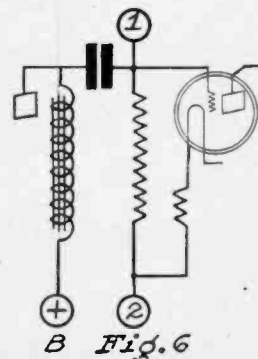

Fig. 6
- Fig. 6. Showing how meter is used to measure the input voltage to a tube in an impedance coupled amplifier.